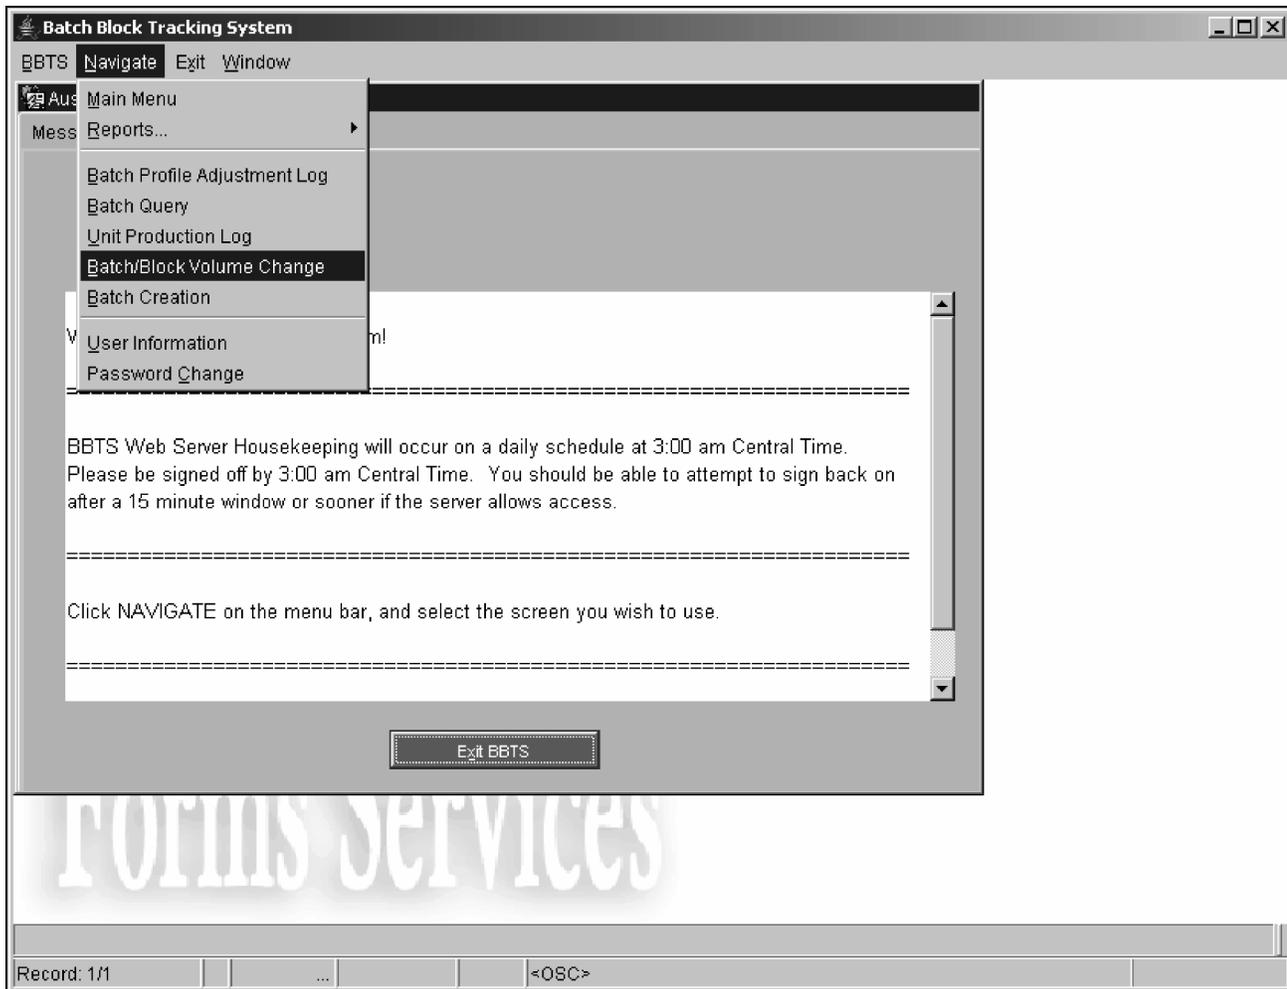

Figure 3.10.5-38 Navigating to the Batch/Block Volume Change Screen
- (1) “Navigate” to the “Batch/Block Volume Change Screen” in the Toolbar. See **Figure 3.10.5-38**